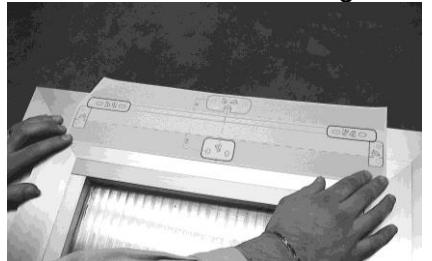

Figure 9
- C. Attach the template to the window frame (fixed part) and line axis up with the centre line "X" traced earlier (Fig. 9). **Warning:** for window frames not on the same plane, cut the part of the template coloured in grey and fix this to the moveable part of the window frame, taking care to keep it in the same position.